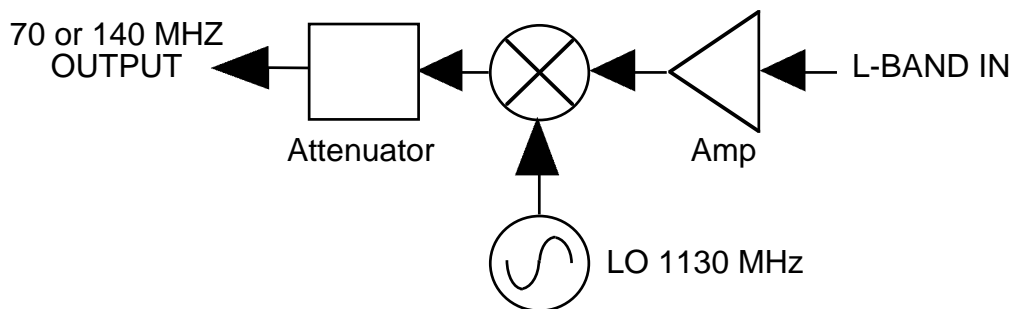

FIGURE 3.1 2006-103 Block Diagram
3.1 Block Diagram Description - 2006-103 (Figure 3.1) - The L-Band input goes via an amplifier to a mixer which receives the LO generated by the VCO. The output of the mixer goes through a 200 MHz low-pass filter and an attenuator before it is capacitively coupled to the output connector, J1. Commands for the phase lock loop IC are provided serially from the microcontroller which determines the frequency of the LO. A 25 MHz crystal provides the reference frequency for the synthesizer IC.